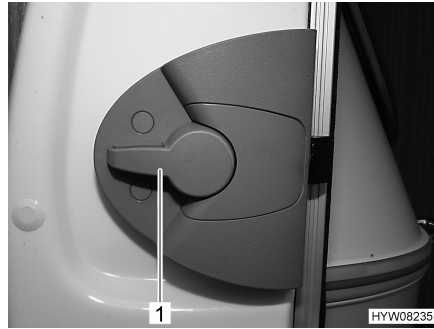

Fig. 12 Door lock, conversion door, inside
- Opening:** ■ Push the handle (Fig. 12,1) down.
- Locking:** ■ Turn the handle (Fig. 12,1) approx. 45° upward and leave it in this position.